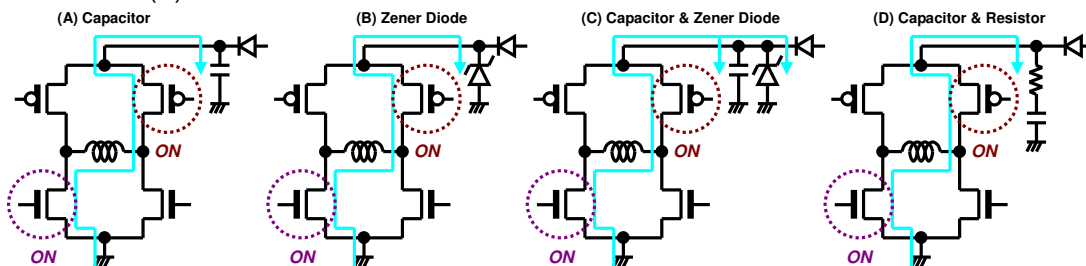

Figure 29. Measure Against VCC and Motor Driving Outputs Voltage
When the absolute maximum rated voltage may be exceeded due to the voltage rise by the back electromotive force, place a (A) capacitor or (B) Zener diode between the VCC pin and the GND pin for regenerative current path as shown in Figure 29. If further measures are necessary, use measures of (A) and (B) together like as (C). The capacitor and the resistor can be used to have better voltage surge protection like as (D).